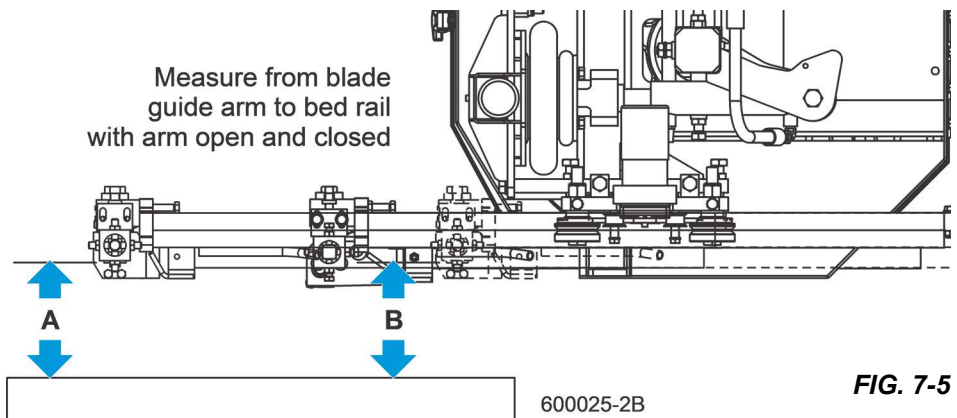

FIG. 7-5
13. Measure the distance from the bottom of the blade guide mounting block to the bed rail. See FIG. 7-5.